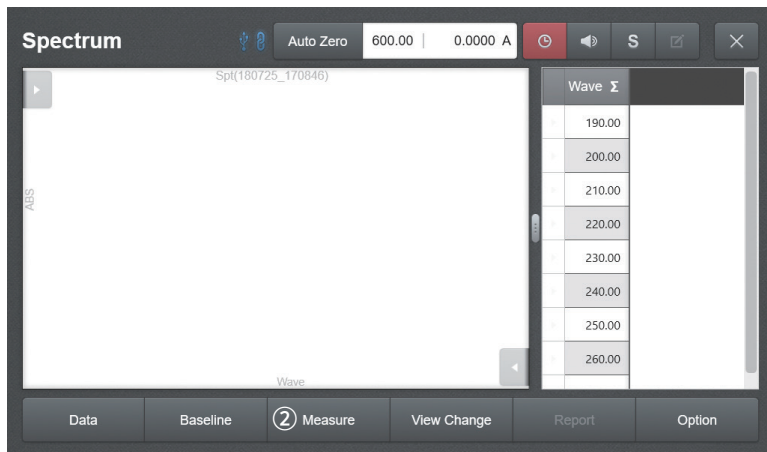

Fig. 5.12
4. [Fig. 5.12] Insert the sample into the pertinent cell holder and press ② **Measure** to take measurements.
5. [Fig. 5.12] If there a sample to add, insert a sample to measure into the pertinent cell holder and press ② **Measure** to take measurements.
7. Click [Figure 5.12] **Report** to check or print the measurement data in report form.